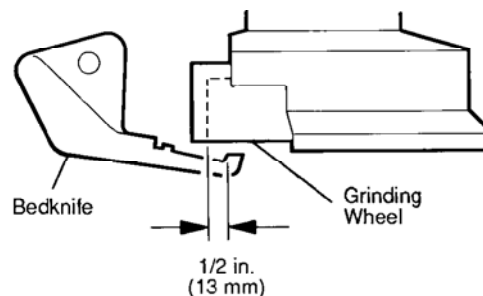

FIG. 33
- \* If possible, the grinding wheel rim should extend over the bedknife top surface. See FIG. 33.